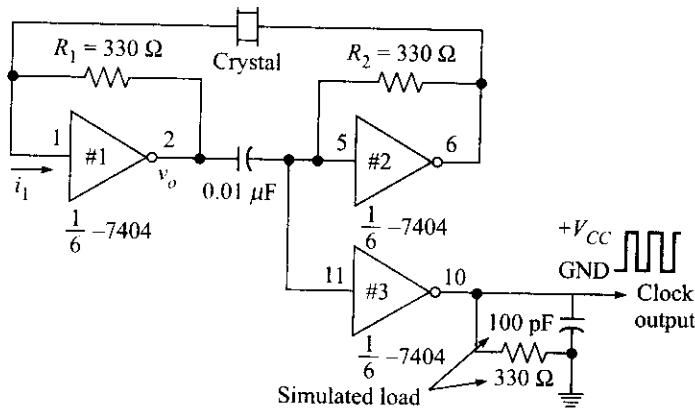

Fig. 7.8 TTL clock circuit
A 7404 hexadecimal inverter can be used to construct an excellent TTL-compatible clock, as shown in Fig. 7.8. This clock circuit is well known and widely used. Two inverters are used to construct a two-stage amplifier with an overall phase shift of 360° between pins 1 and 6. Then a portion of the signal at pin 6 is fed back by means of a crystal to pin 1, and the circuit oscillates at a frequency determined by the crystal. Since the feedback element is a crystal, the frequency of oscillation is very stable. Here's how the oscillator works.
With the feedback element connected, the overall gain is sufficient to drive each inverter between saturation and cutoff, and the output signal is a periodic waveform as shown in Fig. 7.8. Typically, the output clock signal will transition between 0 and $+5\text{ V}$, will have rise and fall times of less than 10 ns , and will be essentially a square wave. The frequency of this clock signal determined by the crystal, and values between 1 and 20 MHz are common.
A TTL clock circuit as shown in Fig. 7.8 is said to provide a 5-MHz clock frequency with a stability better than 5 parts per million (ppm) over a 24-h time period. What are the frequency limits of the clock?
4. Why must the crystal in Fig. 7.8 be a series mode and not a parallel mode?
5. Are the 100-pF and 330-Ω loads necessary in Fig. 7.8?